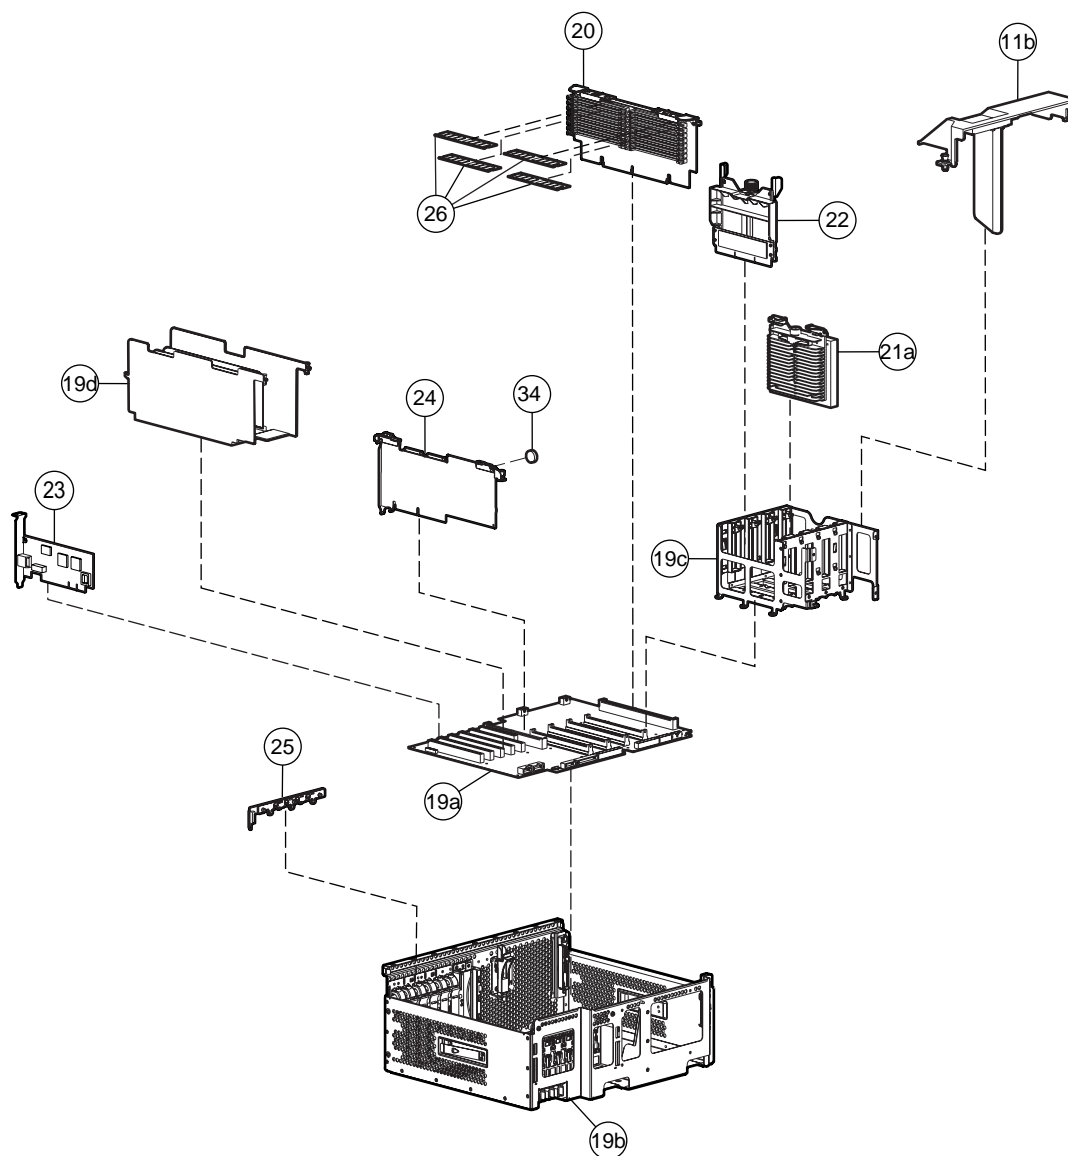

Figure 1-3. Exploded view of the ProLiant ML570 server electronics drawer system components
b) CPU fan air baffle (shown in Figure 1-3)